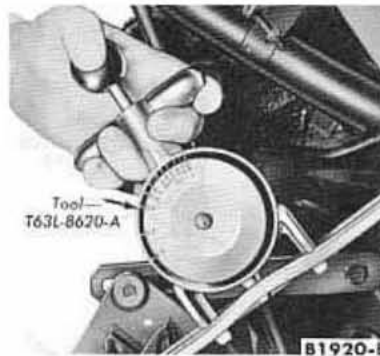

Fig. 5—Fan Drive Belt Tension Adjustment
2. Install the belt tension tool T62L-8620-A on the drive belt. Check the tension following the instructions furnished with the tool (Fig. 5).